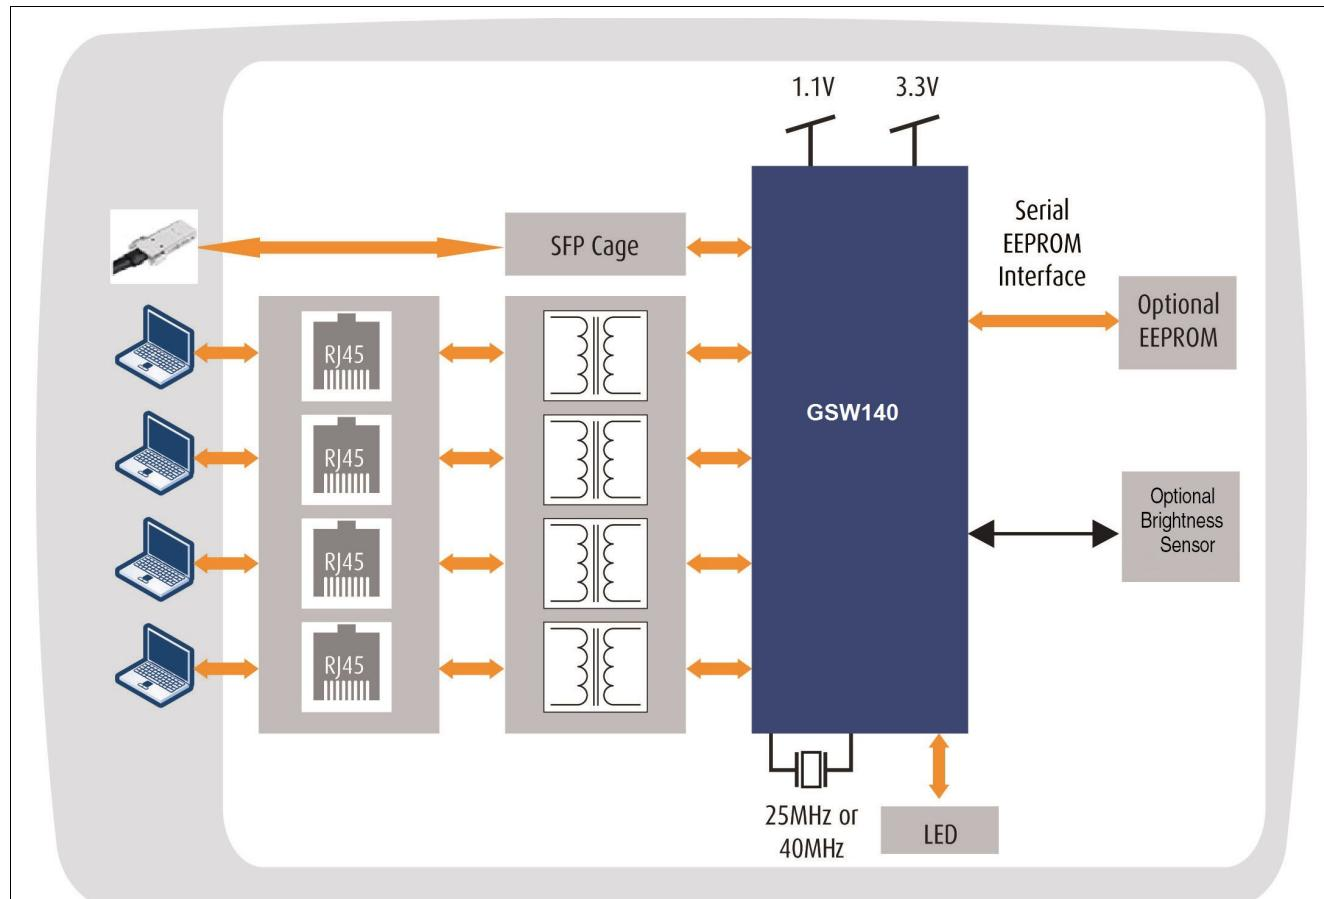
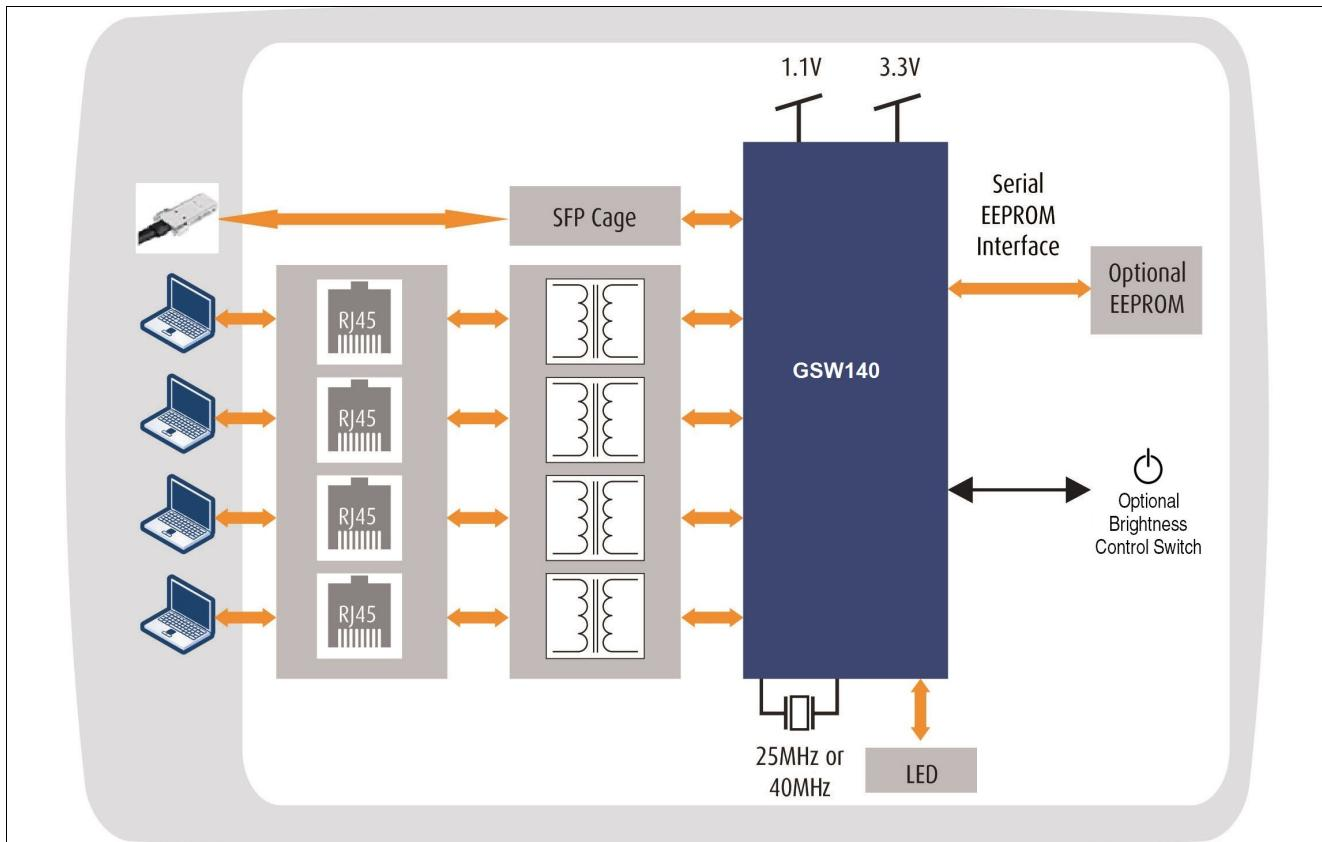

Figure 1 Standalone Desktop Switch with an Optional Brightness Sensor
Figure 2 Standalone Desktop Switch with an Optional Brightness Control Switch
**Figure 1** and **Figure 2** show standalone switch applications with a SFP port. The main advantage for the SFP port is the flexibility for putting it in the network. SFP stands for "small form-factor pluggable" and is a hot-swappable input/output device that plugs into a Gigabit Ethernet port or slot, linking the port with the network. An optional external EEPROM is used for switch configuration. **Figure 1** shows an optional low cost brightness sensor integrated to allow the LED brightness to be controlled by the Gigabit Ethernet Switch to save the system power consumption. **Figure 2** shows an optional brightness on/off switch integrated to allow the LED brightness to be controlled by the switch button to save the system power consumption.